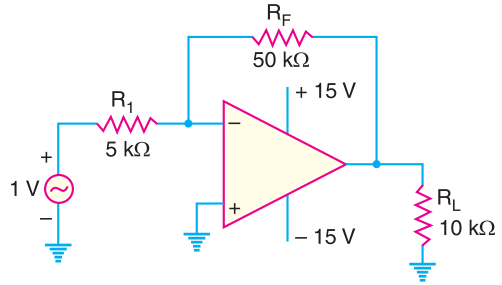

Fig. 25.101
7. For the circuit shown in Fig. 25.101, find (i) closed-loop voltage gain (ii) the instantaneous voltage across R_F when the signal voltage is +1V (iii) the instantaneous voltage on the -terminal when the signal voltage is +1V. [(i) 10 (ii) 10 V (iii) 0 V]